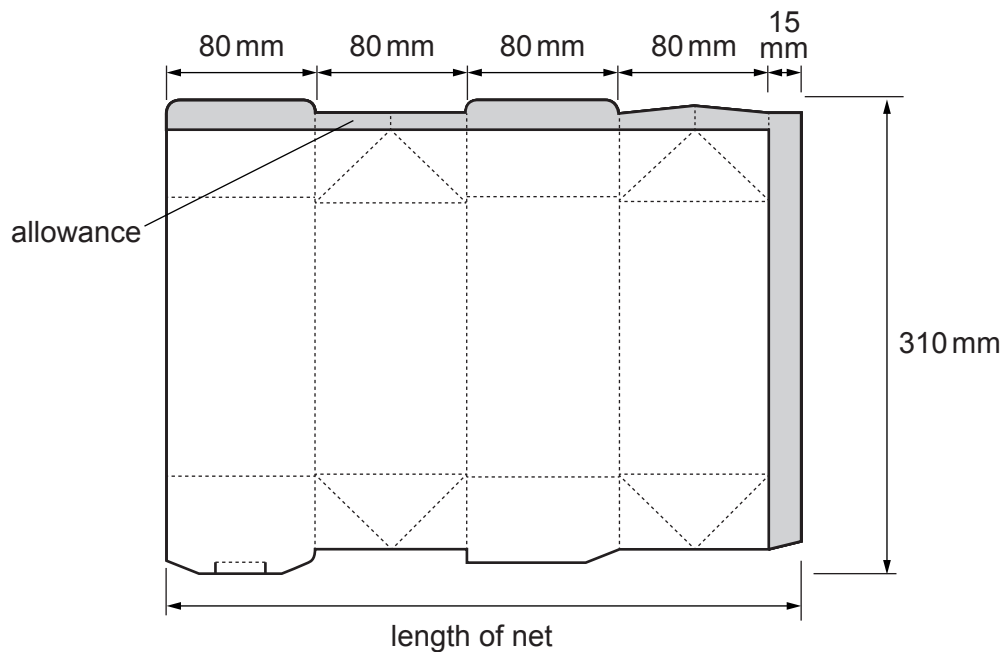

Fig. 2.2
The carton is made from one piece of card using the development (net) shown in **Fig. 2.2**. An allowance of 15 mm for glue tabs is shown shaded in grey.
- (ii) Calculate the area of card needed to make one carton. Use the dimensions shown in **Fig. 2.2**. Give your answer in mm^2 .